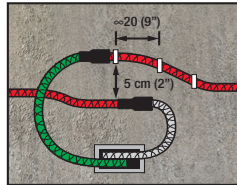

fig. 2
- Rapid Glue is then applied on the second half of the Connection Pipe. The fabric reinforced PVC hose (green or transparent) is slid over the Connection Pipe. **(fig. 2)**
- The minimum distance between two parallel hose sections must be 50 mm (2 in). (**fig. 2**)
- If two SikaFuko® ECO-1 injection hoses cross for construction reasons e.g. at junctions, the upper of the hoses must be installed with the reinforced green PVC pipe in the overlapping area. (**fig. 2**)
- The hose shall be fixed with Fastening Clips at intervals of approx. 200 - 250 mm (8 -10 in). Those clips are then pressed into 6 mm (1/4 in) pre-drilled and cleaned holes. (**fig. 2 + 4**)